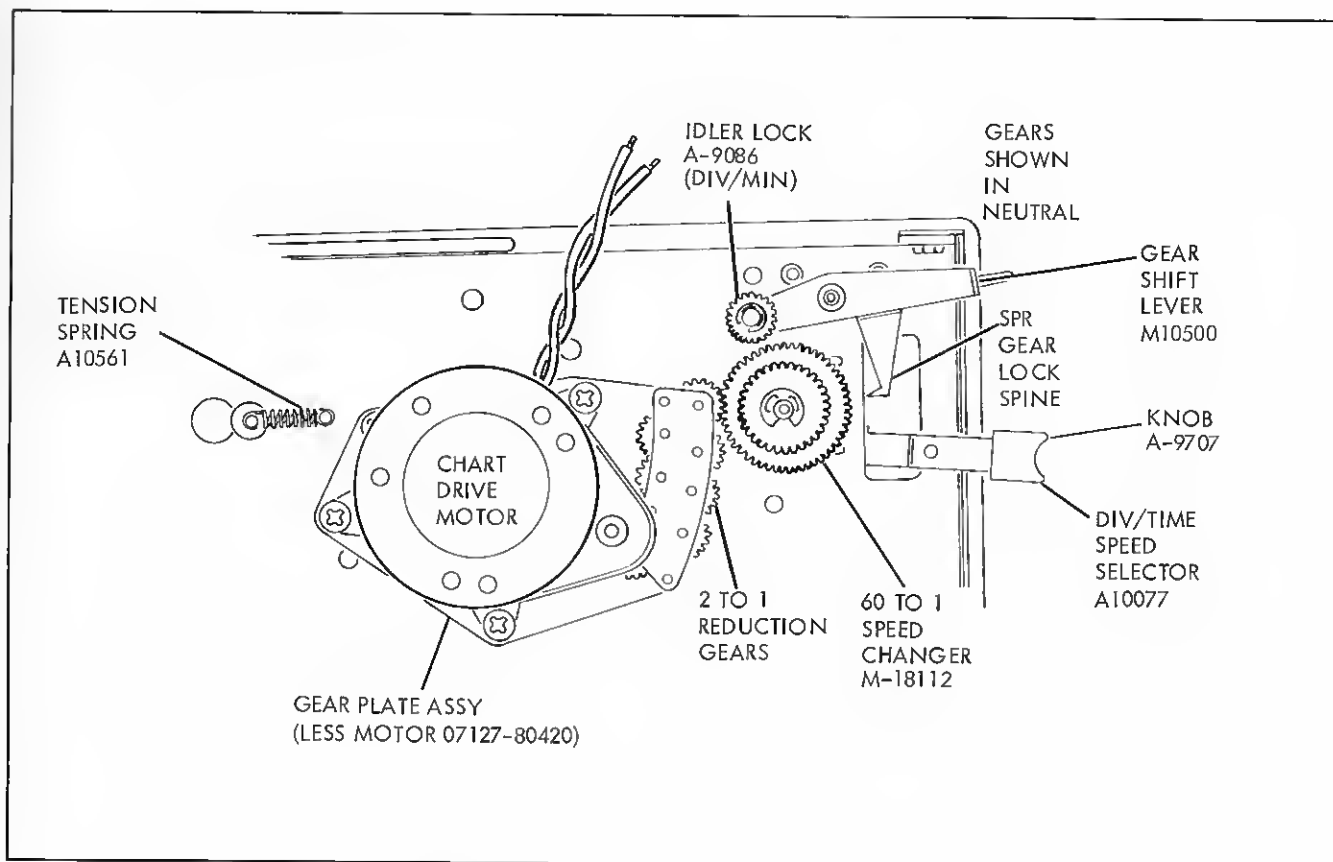

FIGURE 4-3. CHART DRIVE GEAR MECHANISM
**4-19. CHART DRIVE SYSTEM.** A sixteen RPM synchronous motor advances the chart paper through a gear assembly which provides chart speeds of 1, 2, 4, 8 inches per minute, and 1, 2, 4, 8 inches per hour on the Model 680; 2.5, 5, 10, 20 cm/min. 2.5, 5, 10, 20 cm/hr on the Model 680M. This assembly is illustrated in figure 4-3. The chart drive motor drives a cluster of reduction gears with a 2:1 reduction for each of four gears. The speed selector brings the 60:1 speed reducer into mesh with one of the four gears in the cluster. Selection of divisions per minute or hour and also neutral is determined by the gear train control. In the divisions/minute position an idler gear locks the input gear (A) and large spur gear (F) together. (Refer to figure 4-4.) Operation of the 60:1 speed changer is described in paragraph 4-20. In the position just described a 1:1 ratio prevails. When the gear train control is moved to the divisions/hour setting the large spur gear (F) is locked in place. This results in the sun gear and planet gear rotating internally in the 60:1 speed changer thus driving the output gear at a 60:1 reduction. In the neutral position neither the spur gear nor the lock key is engaged; therefore, the input gear rotates freely with no output. This position allows manual advance of the chart.